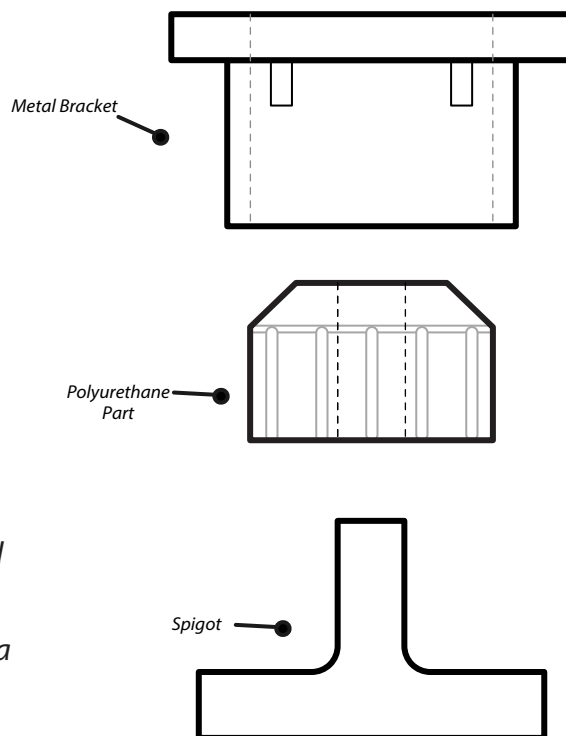

Figure 1 - diagram showing the orientation of the Polyurethane component in relation to the spigot
5. Push the polyurethane bush onto the snub spigot, with the chamfered end facing in towards the back of the mounting cup, as shown in Fig 1.